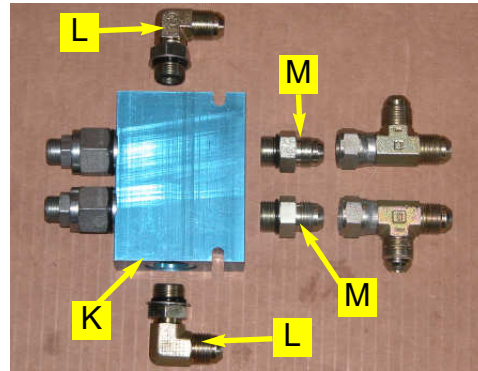

Figure 5a. Counter-balance valve block pieces.
- a. Install the elbow fittings (**L**) into **V1** and **V2** ports and straight adapter fittings (**M**) into the **C1** and **C2** ports of the counter-balance valve block (**K**). (Figure 5a.)